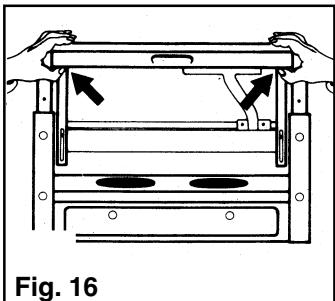

Fig. 16
- Remove the internal cover pressing both unlocking devices (press and pull). **Fig. 16**.